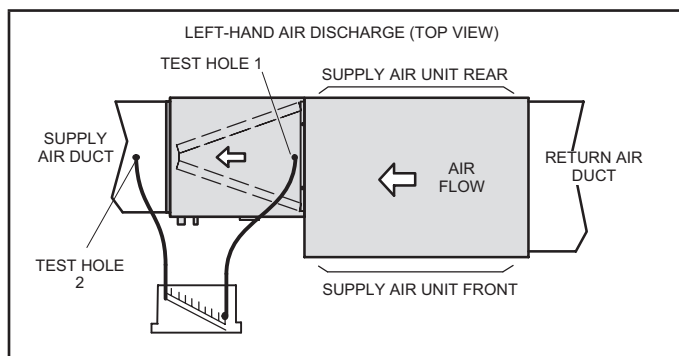

FIGURE 13. Static Pressure Test
To ensure accuracy, static pressure must be read from the air entry side of the coil to the air exit side of the coil. See figure 13 for an example to obtain an accurate reading.
- 1 - Drill a 5/16" test hole in the coil case 1" from the furnace flange (test hole 1, figure 13).
- 2 - Drill a 5/16" test hole into the supply air duct (test hole 2, figure 13).